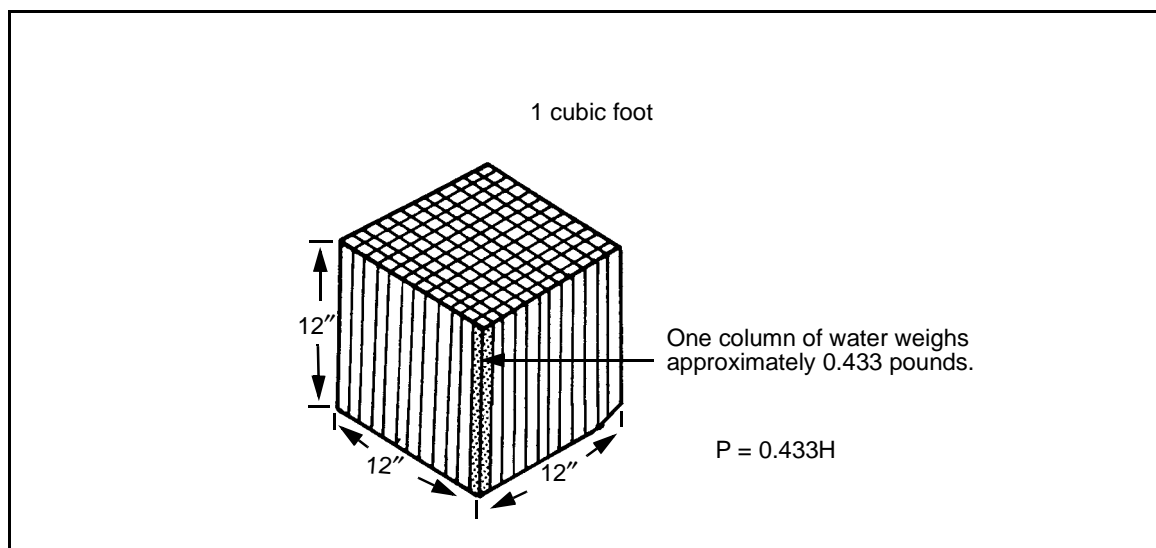

Figure E-1. Water Pressure
E-2. Pressure (P) is an expression, in psi (lb/in²), of the total gravitational force (lb) exerted at the base of an imaginary 1-inch square (in²) column of water—thus psi—of any column height or head (H) in feet (*Figure E-1*).